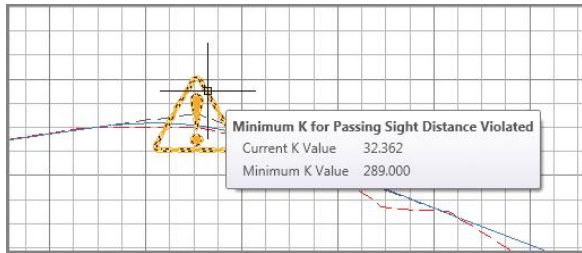

FIGURE 7.11 Warning symbol with a tooltip reporting that the passing-sight-distance criterion isn't being met
7. Hover your cursor over the warning symbol farthest to the left. The tooltip reports that the minimum passing sight distance isn't being met (see Figure 7.11).